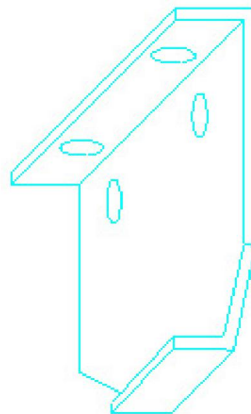

Figure 5
- e. One Front Shelf (Figure 5)